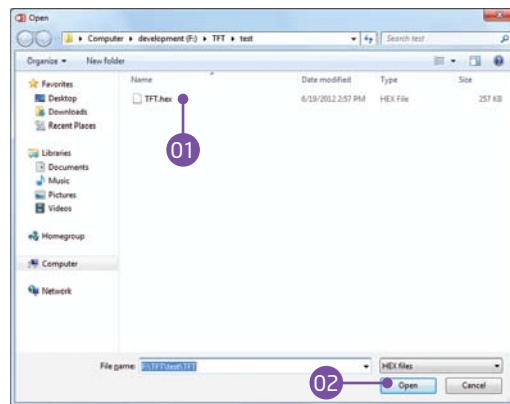

Figure 3-4: Selecting HEX
- 01 Click the **Browse for HEX** button and from a pop-up window (**Figure 3.4**) choose the .HEX file which will be uploaded to MCU memory.